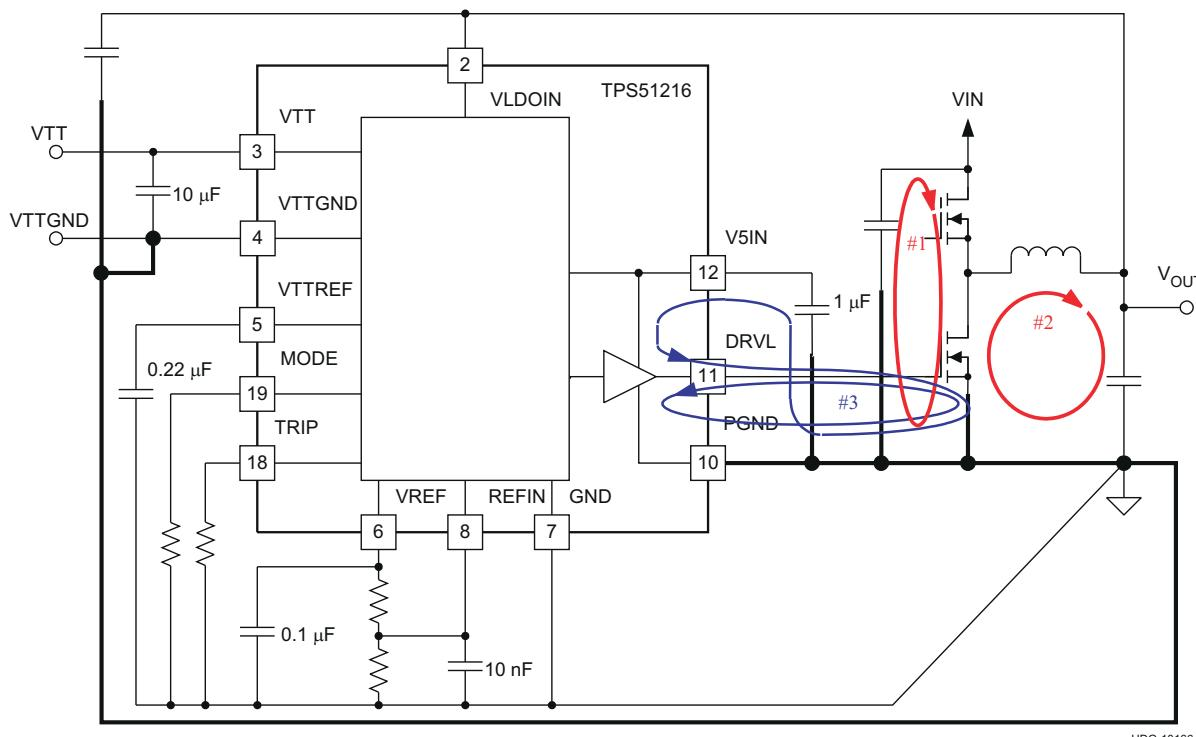

图 11-1. DC/DC Converter Ground System
- The most important loop to minimize the area of is the path from the VIN capacitors through the high and low-side MOSFETs, and back to the capacitors through ground. Connect the negative node of the VIN capacitors and the source of the low-side MOSFET at ground as close as possible. (Refer to loop number 1 of 图 11-1)
- The second important loop is the path from the low-side MOSFET through inductor and VOUT capacitors, and back to source of the low-side MOSFET through ground. Connect source of the low-side MOSFET and negative node of VOUT capacitors at ground as close as possible. (Refer to loop number 2 of 图 11-1)
- The third important loop is of gate driving system for the low-side MOSFET. To turn on the low-side MOSFET, high current flows from V5IN capacitor through gate driver and the low-side MOSFET, and back to negative node of the capacitor through ground. To turn off the low-side MOSFET, high current flows from gate of the low-side MOSFET through the gate driver and PGND, and back to source of the low-side MOSFET through ground. Connect negative node of V5IN capacitor, source of the low-side MOSFET and PGND at ground as close as possible. (Refer to loop number 3 of 图 11-1)